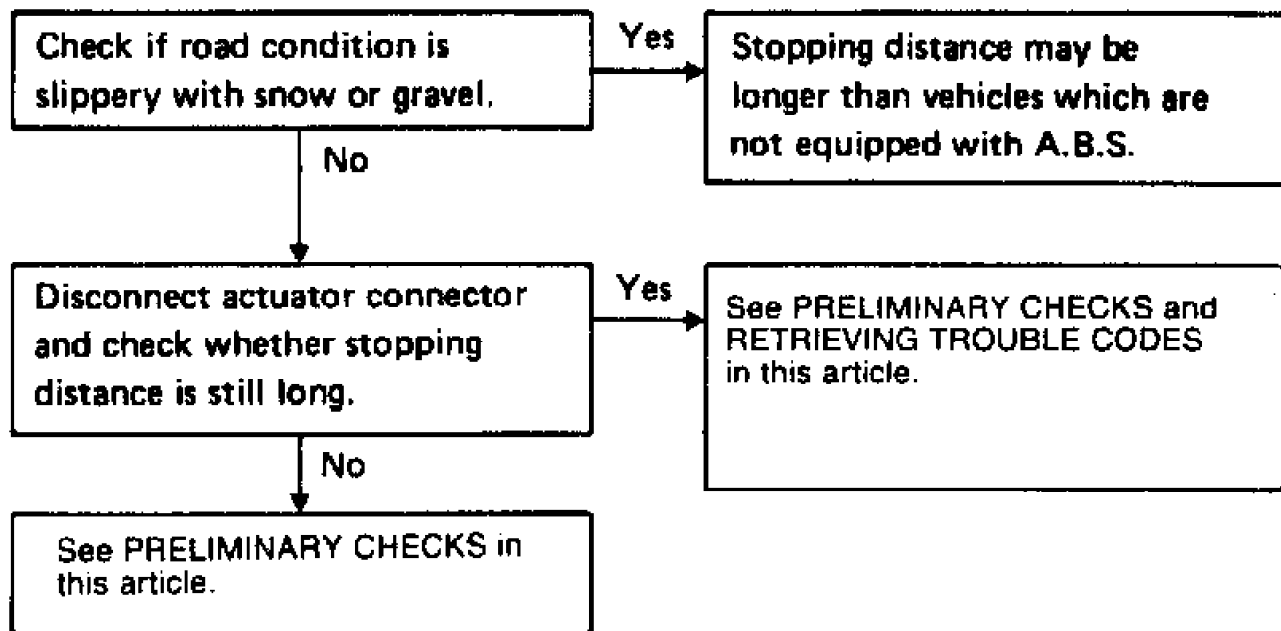

Fig. 9: No Code - Long Stopping Distance Trouble Shooting Chart
- Long Stopping Distance - See Fig. 9.